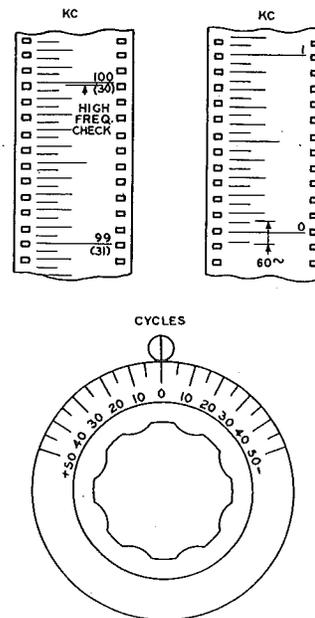

Fig. 7 - Frequency Scale Markings.
2.28 The 50 or 60-cycle calibration is effected by beating the power supply frequency against the output frequency with the film scale set at 60 (or 50) cycles. This is accomplished by lighting the calibration lamp with a small amount of the power supply current in series with the output of the oscillator. The resultant current through the calibration lamp causes it to vary in brightness at a rate equal to the difference in the two frequencies. Synchronism between the output and the power supply will occur when the variable oscillator is generating a voltage either above or below the frequency of the fixed oscillator by the amount of the power frequency. Both 60 (and 50) cycle points are therefore marked on the film scale in order that a check can be made at each point to insure that calibration is not made on the wrong sideband which would result in the output being in error by 120 (or 100) cycles. These markings are shown in Fig. 7.